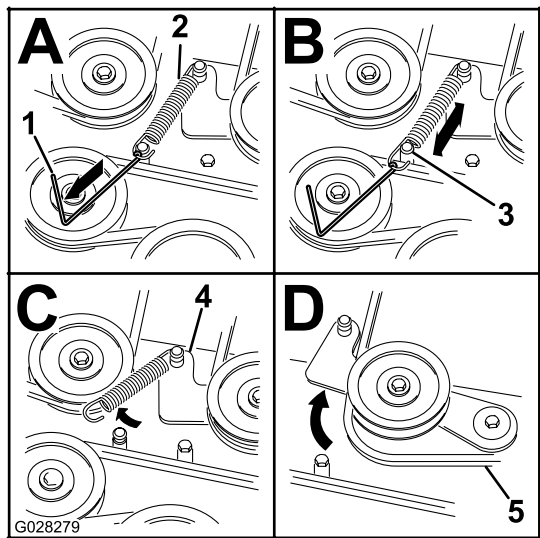

Figure 50
7. Using a spring removal tool, (Toro Part No. 92-5771), remove the idler spring from the deck post to remove tension on the idler pulley (Figure 50).
10. Install the new belt around the mower pulleys and the clutch pulley under the engine (Figure 50).
11. Using a spring-removal tool, (Toro Part No. 92-5771), install the idler spring over the deck post and placing tension on the idler pulley and mower belt (Figure 50).